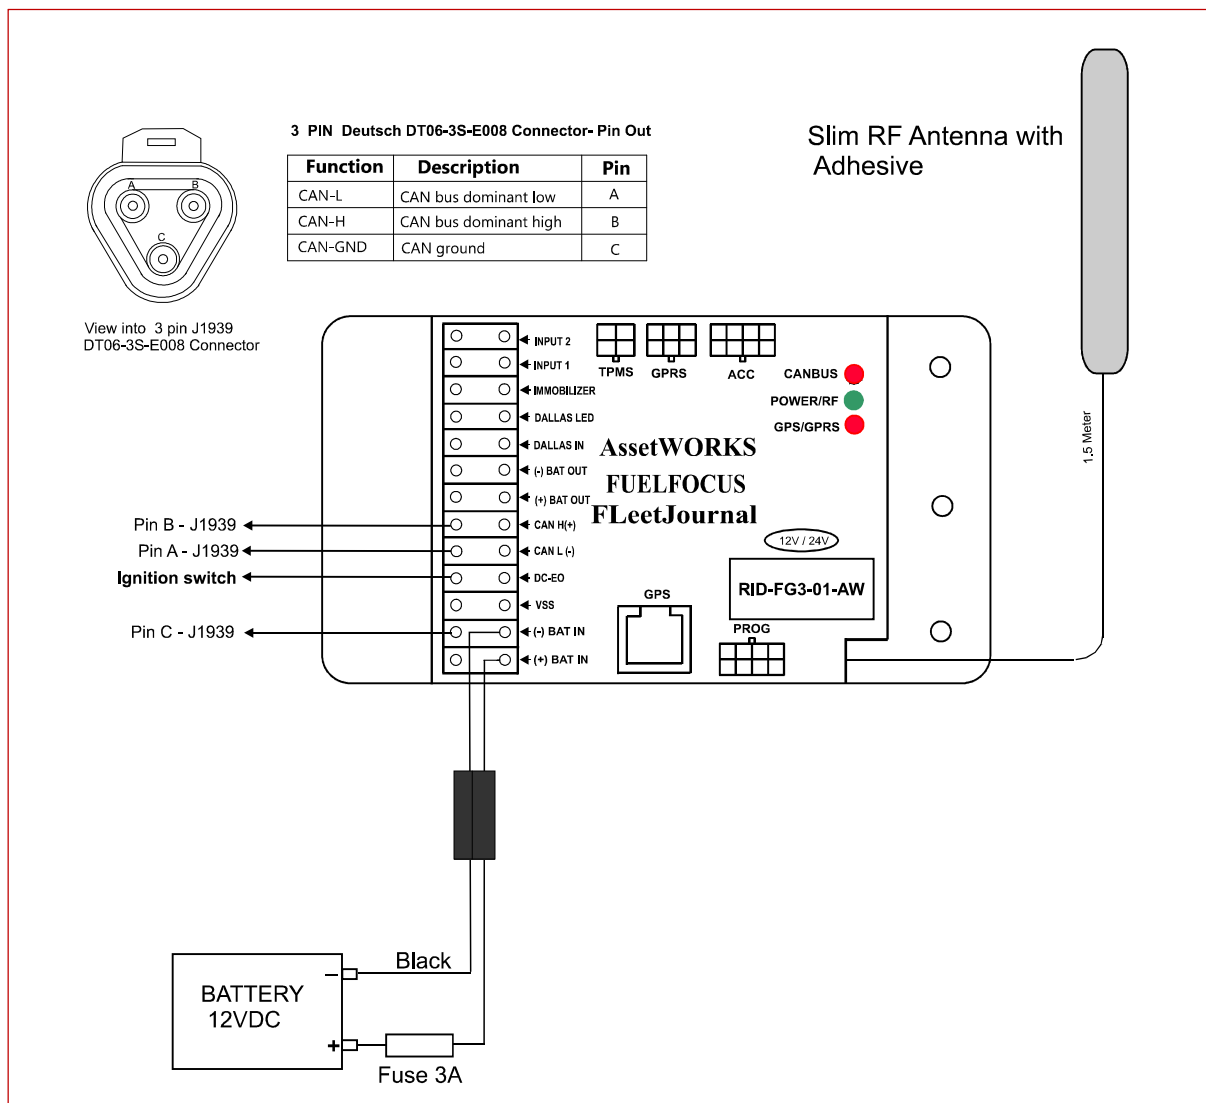

Figure 7: Wiring Diagram for FG3 with CAN Bus Interface (3-pin connector) for Heavy Duty Vehicles
1. Run a wire from the vehicle ignition switch (or start/stop button on some hybrid models) to the DC-EO terminal on the FG3 (refer to Figure 5: Wiring Diagram for FG3 with CAN Bus Interface for Light Duty Vehicles, Figure 6: Wiring Diagram for FG3 with CAN Bus Interface for Heavy Duty Vehicles Figure 7: Wiring Diagram for FG3 with CAN Bus Interface (3-pin connector) for Heavy Duty Vehicles)